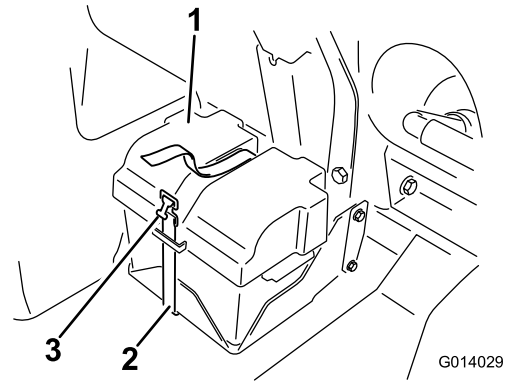
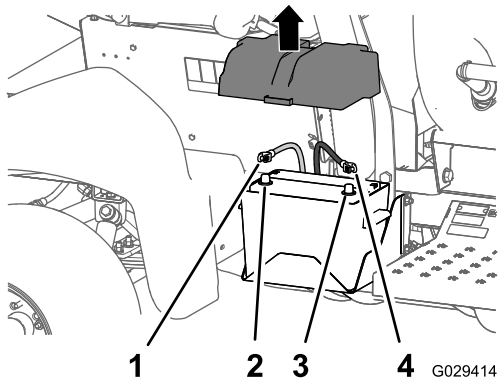

Figure 1
Figure 2
1. Remove the battery cover and disconnect the negative (black—ground) cable from the battery post (Figure 1 and Figure 2).
2. Disconnect the positive (red) cable from the battery post (Figure 2).